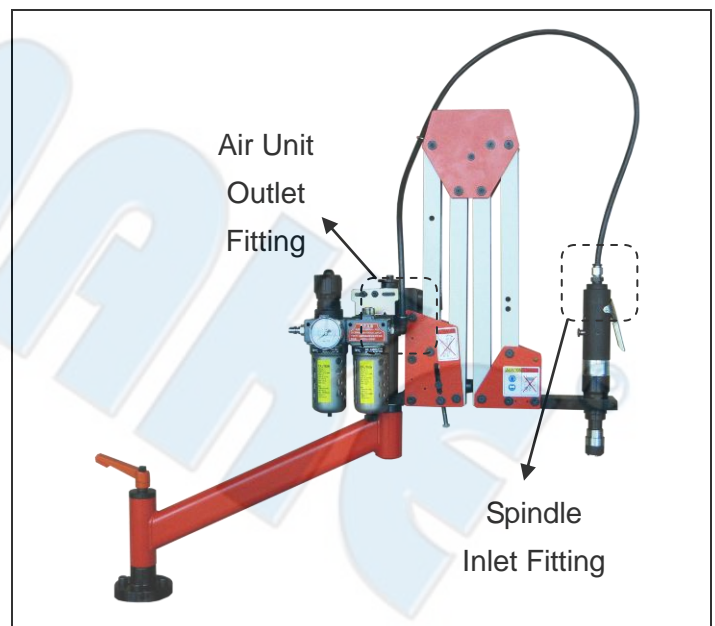

Figure 7-9
- (1) Attach air hose into outlet fitting of air unit and inlet fitting of spindle (see Figure 7-9).
- (2) Press hose firmly into fittings. Fittings are spring loaded. Hose can be removed by depressing lip of fitting.